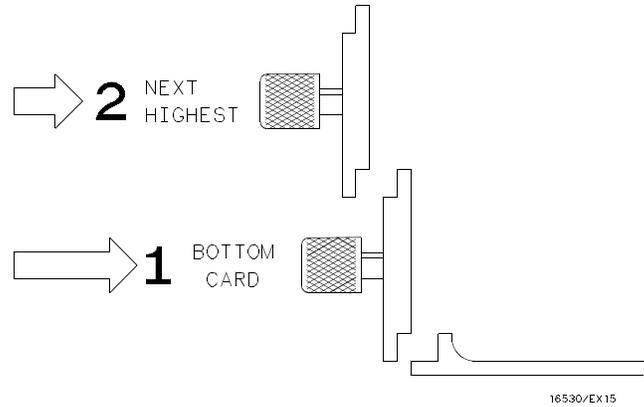

Figure 2-12. Endplate Overlap
6. Firmly seat the bottom card into the backplane connector of the mainframe. **Keep applying pressure to the center of the card endplate while tightening the thumb screws finger tight.** Repeat for all cards and filler panels in a bottom to top order. See figure 2-12.